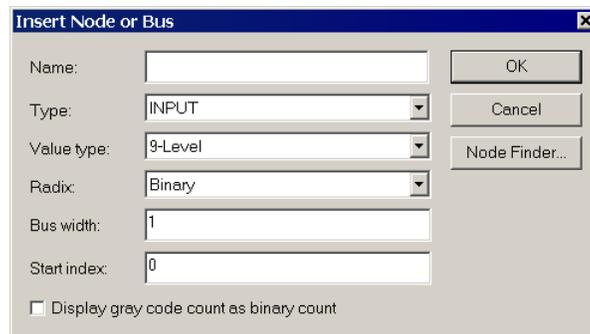
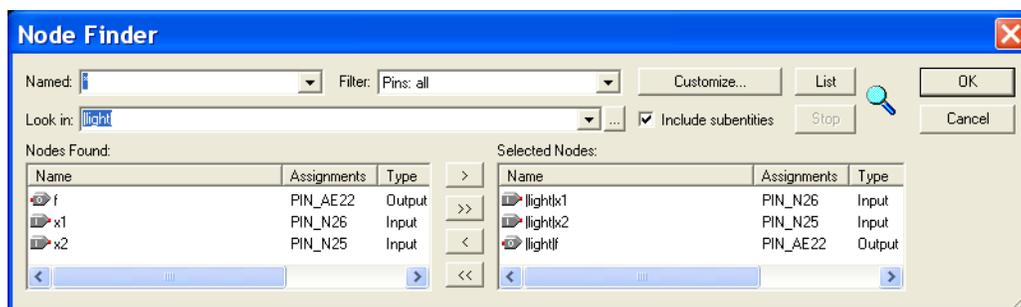
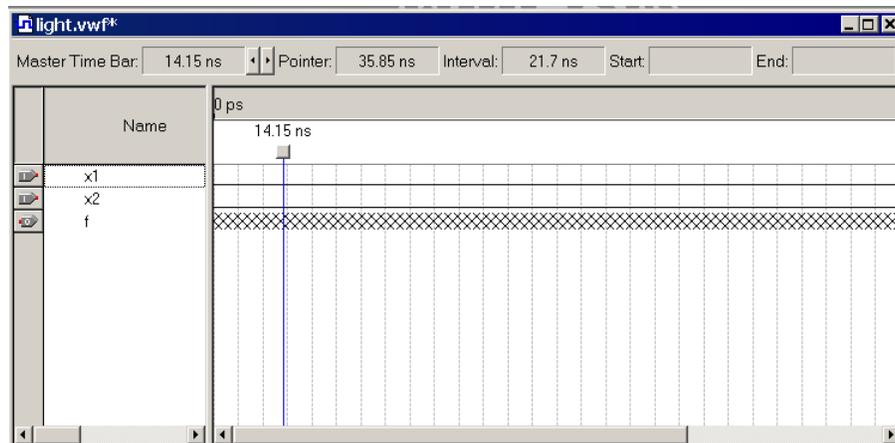

Figure 34. The Insert Node or Bus dialogue.
Figure 35. Selecting nodes to insert into the Waveform Editor.
Figure 36. The nodes needed for simulation.
- Next, we want to include the input and output nodes of the circuit to be simulated. Click **Edit > Insert Node or Bus** to open the window in Figure 34. It is possible to type the name of a signal (pin) into the Name box, but it is easier to click on the button labeled **Node Finder** to open the window in Figure 35. The Node Finder utility has a filter used to indicate what type of nodes are to be found. Since we are interested in input and output pins, set the filter to **Pins: all**. Click the **List** button to find the input and output nodes as indicated on the left side of the figure.
Click on the $x1$ signal in the Nodes Found box in Figure 35, and then click the $>$ sign to add it to the Selected Nodes box on the right side of the figure. Do the same for $x2$ and f . Click **OK** to close the Node Finder window, and then click **OK** in the window of Figure 34. This leaves a fully displayed Waveform Editor window, as shown in Figure 36. If you did not select the nodes in the same order as displayed in Figure 36, it is possible to rearrange them. To move a waveform up or down in the Waveform Editor window, click on the node name (in the Name column) and release the mouse button. The waveform is now highlighted to show the selection. Click again on the waveform and drag it up or down in the Waveform Editor.